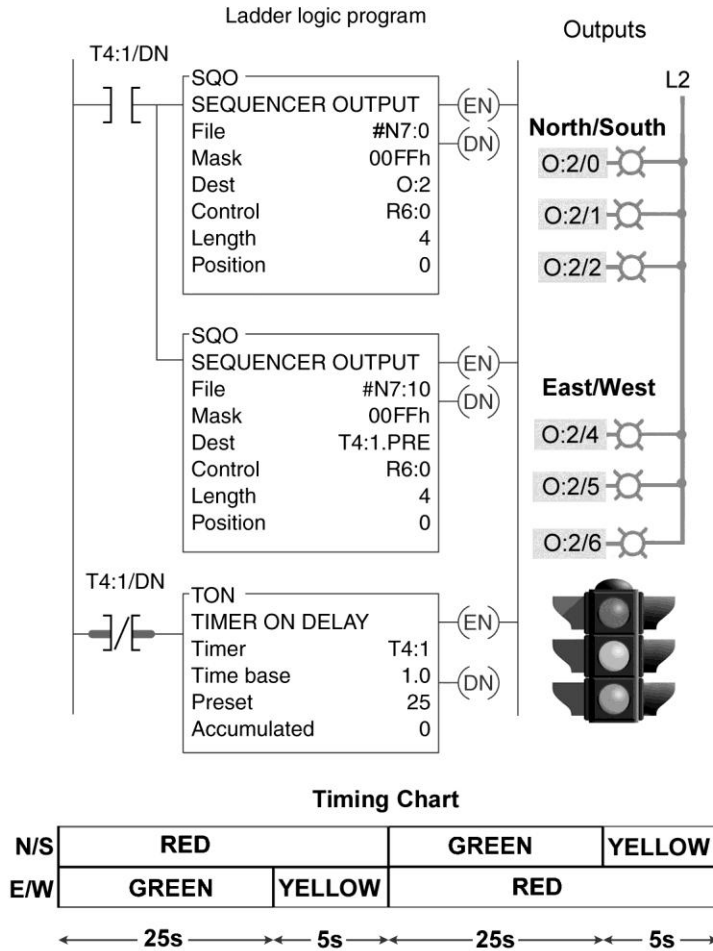

Figure 12-21 Time-driven sequencer for assignment 2.
2) The time-driven traffic light sequencer program of Figure 12-21 is described in the text. Prepare an I/O connection diagram and ladder logic program that will simulate its operation. Use addresses that apply to your PLC installation. Enter the program into the PLC, and verify its operation.